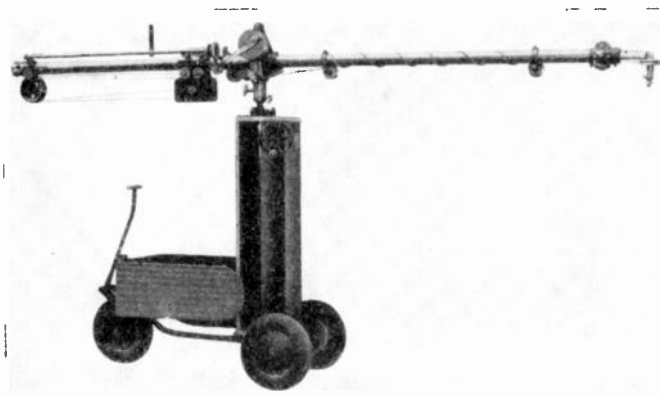

Fig. 19-15. Mole-Richardson microphone boom.
The Mole-Richardson boom (Fig. 19-15) is capable of several simultaneous adjustments, including the extension of the boom arm. The adjustments are: (1) panning of the boom arm (360 degrees); (2) tilting of boom arm (45 degrees above horizontal to 45 degrees below horizontal); (3) extension of mike boom (from a minimum length of 7 feet 4½ inches to an extended length of 17 feet); (4) rotation of microphone at end of boom arm. Whereas these adjustments can all be made simultaneously by one operator, a fifth adjustment, height of central column, can be made before the boom is in use. The boom may rest horizontally at a minimum height of 6 feet 5 inches, or the central column may be raised so that the
The sides of the operating platform, shown in Fig. 19-15 folded down, will open up flat, and the operator stands on the right-hand side of the boom. His right hand operates the crank which extends or retracts the boom. His left hand holds a handle (shown projecting straight up) which, when he pulls it down, rotates the microphone. Panning and tilting of the boom are also controlled with this hand, by direct effort instead of a twisting movement. All controls can be locked by large-handled setscrews, so that when the boom is being moved and there is no operator at the controls, it will not swing wildly about. The microphone cable